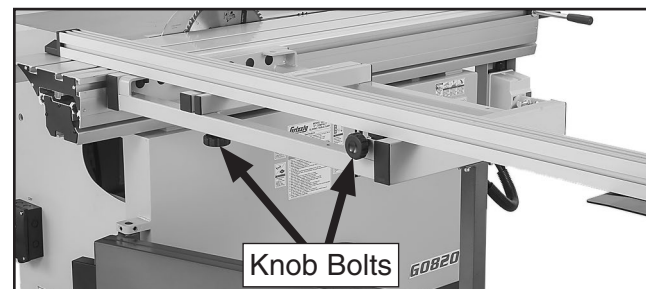

Figure 93. Locations of knob bolts securing crosscut fence.
2. Loosen and remove knob bolts shown in **Figure 93**.